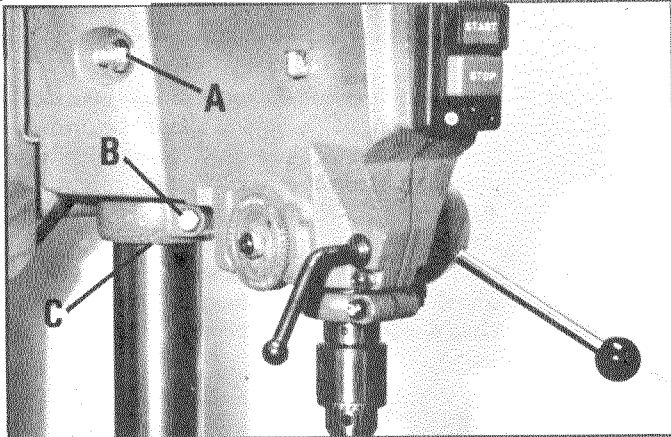

Fig. 1
Your 15" Drill Press has been completely assembled and tested at the factory. All that is necessary for you to do is loosen the clamp nut (A) Fig. 1, on left hand side of head, that holds the head to the column, slide the head up until casting top is level with the top of the column and retighten clamp nut. Then loosen clamp nut (B) Fig. 1, move support collar (C) up against bottom of head, and tighten clamp nut. The table and all other machined or unpainted surfaces of the drill press are protected with a coating of rust preventive. This coating may be removed with a soft cloth moistened with kerosene (do not use acetone, gasoline or lacquer thinner for this purpose.) After cleaning, cover all unpainted surfaces with a light film of good machine oil.